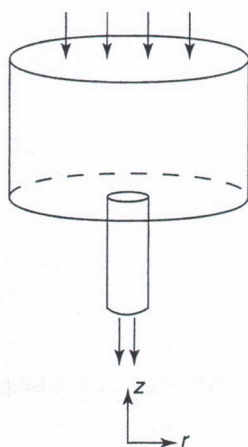

Figure 5.40
33. How do the velocity components simplify for axisymmetric-contraction flow shown in Figure 5.40? For a Newtonian fluid, how does the extra-stress tensor simplify as a result of this?